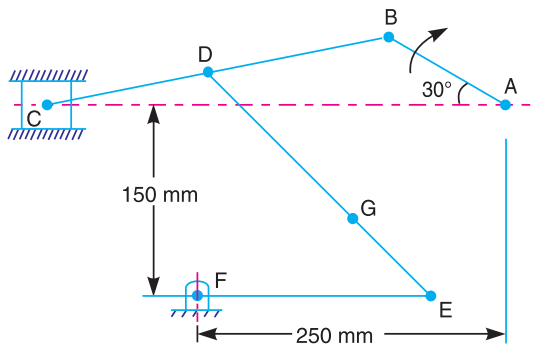

Fig. 8.39
4. In a mechanism as shown in Fig. 8.39, the link  $AB$  rotates with a uniform angular velocity of  $30 \text{ rad/s}$ . The lengths of various links are :